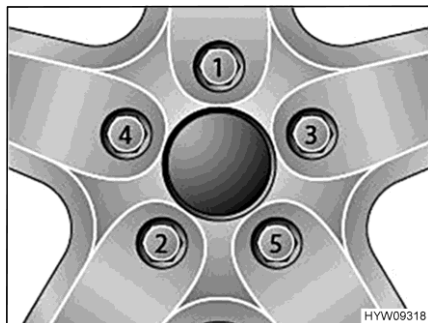

Fig. 114 Tightening the wheel nuts or wheel bolts cross-wise
- Tighten the wheel nuts or wheel bolts in the order shown in Fig. 114. In order to do this, use a torque wrench and comply with the specified tightening torque (see section 14.5).
- Check regularly that the wheel nuts or wheel bolts are firmly seated. Re-tighten the wheel nuts or wheel bolts of a changed wheel after 50 km (30 miles). While doing so, proceed in the order shown in Fig. 114.
- When using new or newly painted rims, re-tighten the wheel nuts or wheel bolts once again after approx. 1,000 to 5,000 km (600 miles to 3,000 miles). While doing so, proceed in the order shown in Fig. 114.